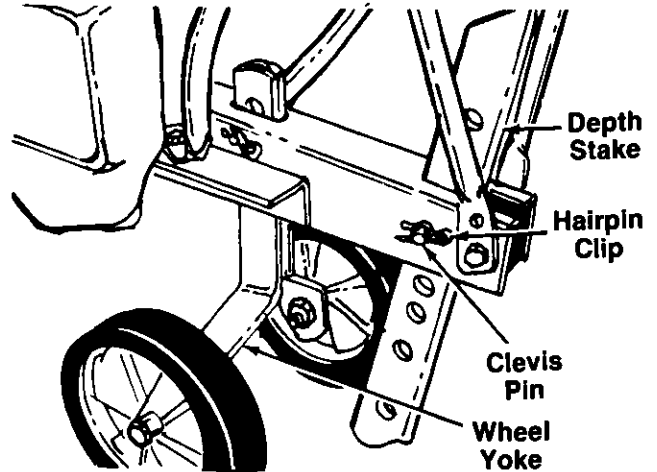

FIGURE 22.
The tiller is shipped with the wheels adjusted such that the unit sits level. During digging as the tines enter the ground and the front of the tiller lowers, the wheels must be raised to level the unit, which is essential for proper engine operation. This adjustment is made by removing the clevis pin and hairpin clip from wheel yoke, raising the wheels to the desired height, and replacing the clevis pin and hairpin clip. See figure 22.
2. **Depth Stake Adjustment:** The depth stake acts as a brake for the tiller and controls the depth and speed at which the machine will operate. Remove the clevis pin and hairpin clip to raise or lower depth stake. See figure 22.